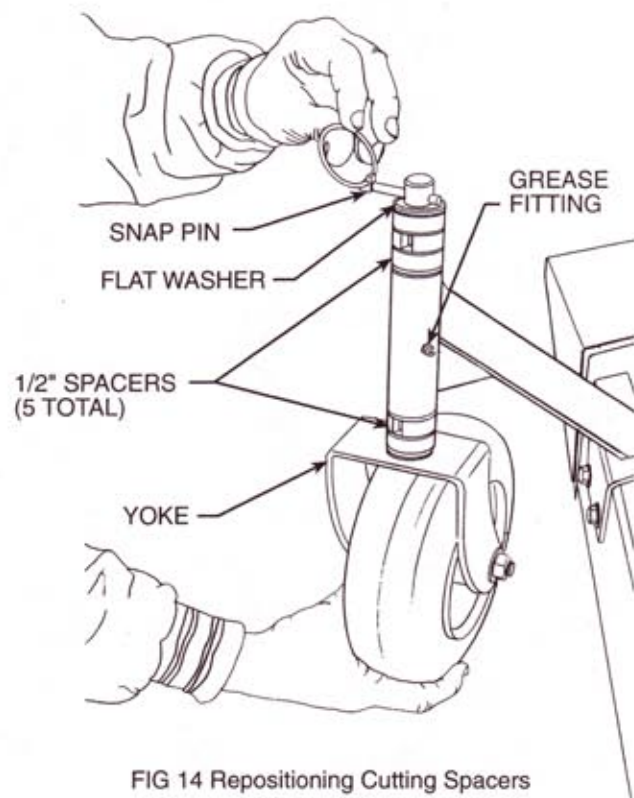

FIG 14 Repositioning Cutting Spacers
CUTTING HEIGHT ADJUSTMENT FIG 14 & 15
1. Raise and block front of Mower Deck, remove Snap Pin and Flat Washer, FIG 14. To raise height of cut, lower Caster Wheel Yoke 1/2", lift off Spacer from top and place on the underside of the Caster Wheel Yoke.